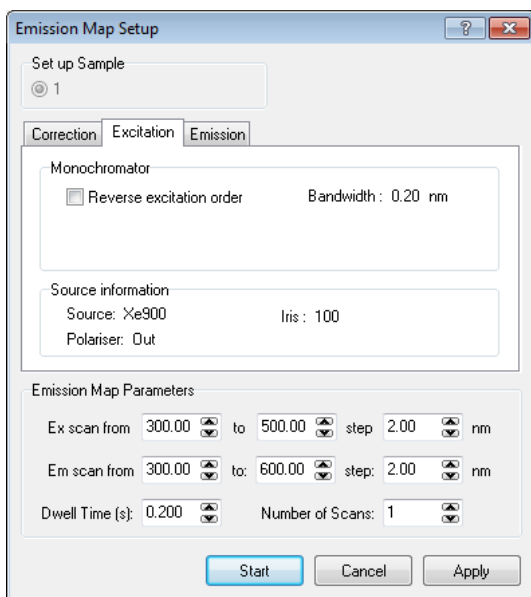

Figure 4-14: Emission Map Setup – Excitation
5. Select the **Excitation** tab and decide whether the excitation should be stepwise increased – no tick, or stepwise decreased – tick the box **Reverse Excitation Order** (refer to Figure 4-14). Use the latter option when there is a risk for noticeable photo-degradation of the sample during the long measurement time. Starting at longer wavelengths (lower excitation energies) reduces the impact of photo-degradation on the measurement.